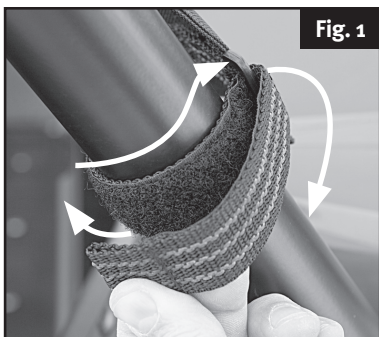

Fig. 1
2. Starting at the front, loosely attach the front rubberized rip-and-grip straps [A] to the frame of the roll cage bar as shown (Fig 1). Then attach the rear vertical straps [B] to the rear horizontal supports of the roll cage. Make sure the cover is centered side to side on the roll cage (Fig 2).
Apply the adhesive-backed rip-and-grip strips to the front, outside of the front roll bars, five per side, spaced evenly (Fig. 1). Press firmly and allow 24 hrs. for the adhesive strips to cure.
Then attach the rear vertical straps [C] to the rear vertical supports of the roll cage (Fig 1). Make sure the cover is centered side to side on the roll cage (Fig 2).